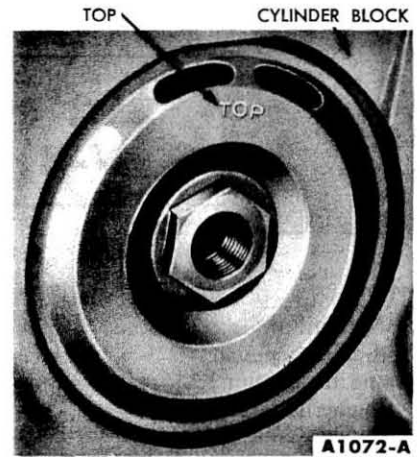

FIG. 45—Diaphragm Position
5. Make sure the two elongated holes in the oil filter anti-drain back diaphragm are in the up position (Fig. 45).